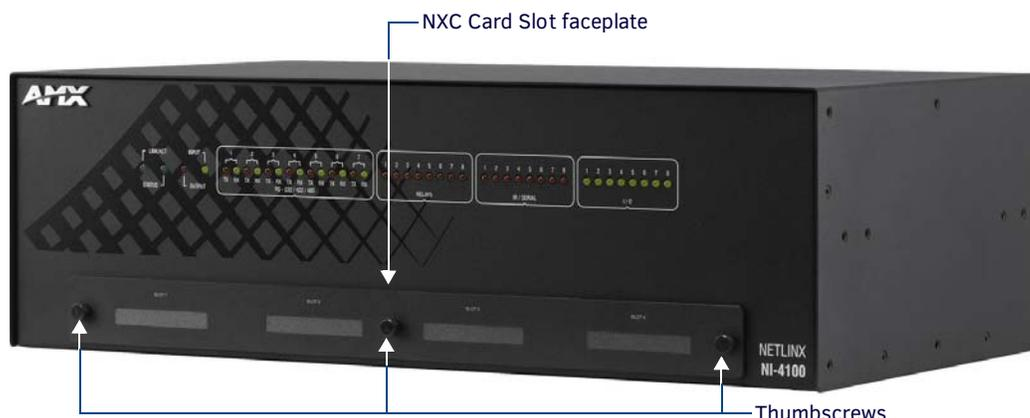

FIG. 4 NI-4100 front faceplate
2. Remove the three screws by turning them in a counter-clockwise direction and then remove the faceplate (FIG. 4).
3. Remove the faceplate from the front plate (FIG. 4 on page 14).